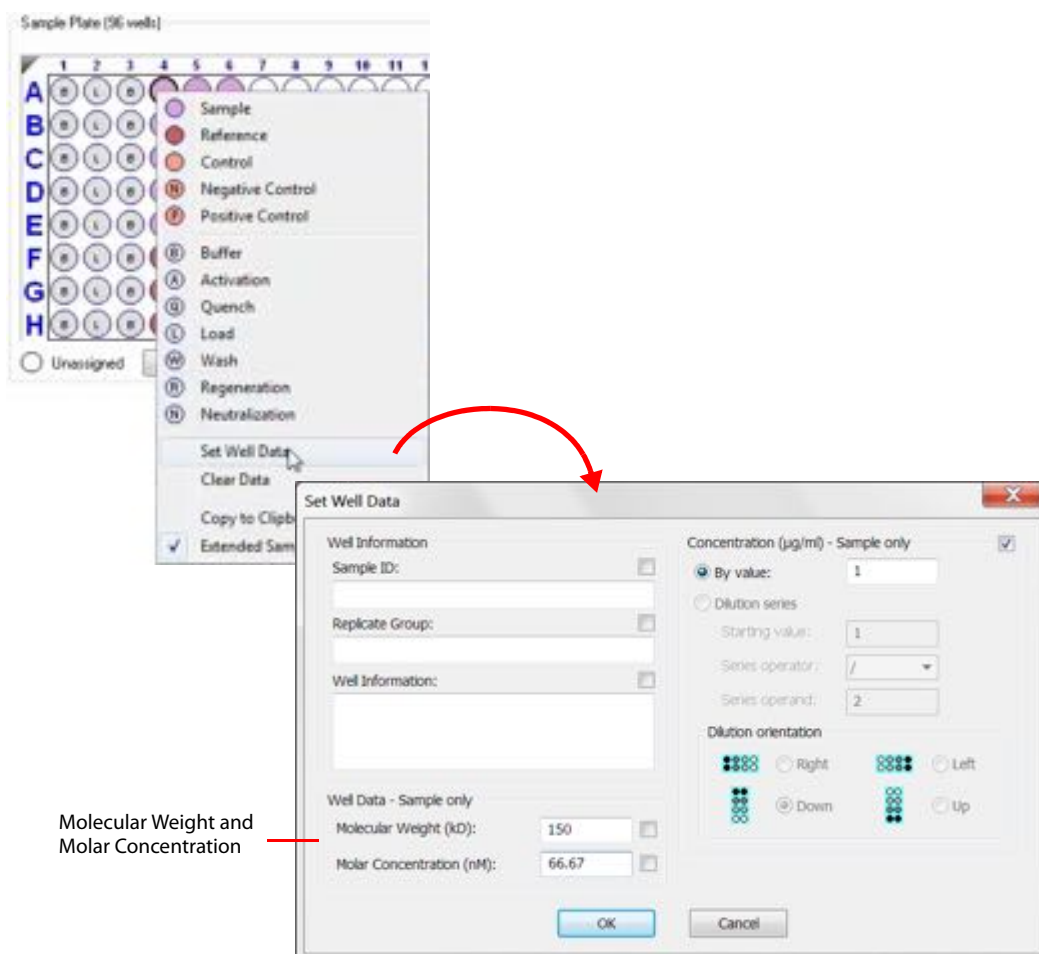

Figure 8-5: Entering Molecular Weight and Molar Concentration from the Sample Plate Map
2. In the **Set Well Data** dialog box, enter the analyte molecular and molar concentration (Figure 8-5).